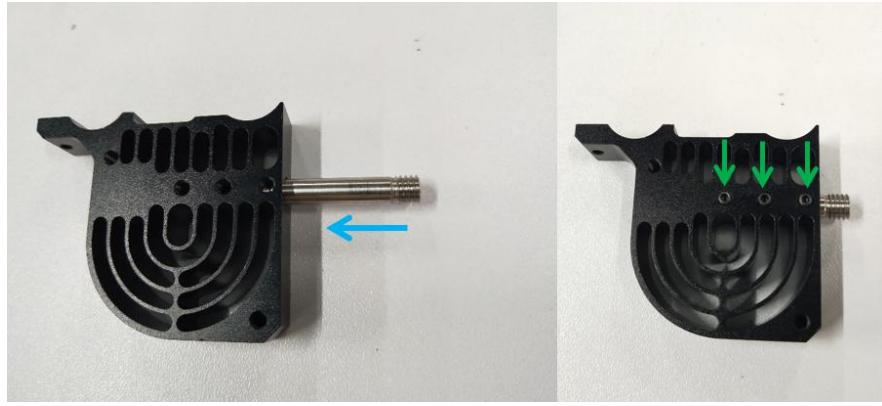

Figure 2.12.2
**Step 2-12-2:** as shown in Figure 2.12.2